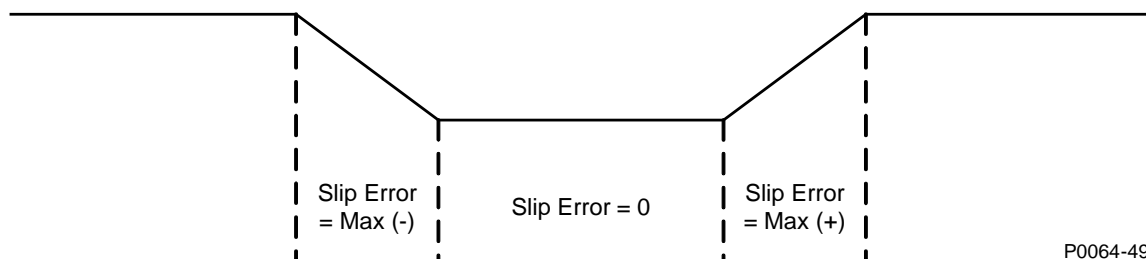

Figure 9. Slip Frequency Error
Generator frequency correction is defined by the slip frequency and further refined by the breaker closing angle. The slip frequency setting^B establishes the maximum allowable deviation of the generator speed (frequency) from the bus frequency. The Min Slip Control Limit setting^C and Max Slip Control Limit setting^D are used to calculate the slip frequency error and to provide continuous slip frequency control while in phase lock synchronization. If the slip frequency magnitude is above the Max Slip Control Limit, the error is set equal to the Max Error in the opposite polarity. If the slip frequency magnitude is below the Min Slip Control Limit, the error is set equal to the Max Error in the opposite polarity. When it is between the two limits, the error is zero (0). Slip frequency error is shown in Figure 9.